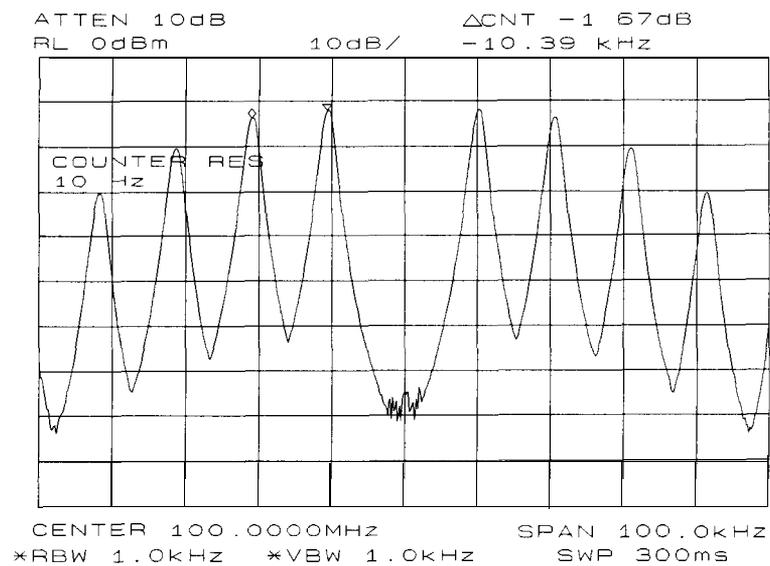

Figure 2-11. Markers Show Modulating Frequency
- b. Press COUNTER ON OFF so that ON is underlined, and use the delta count mode to read the difference between two sideband peaks (see Figure 2-11).